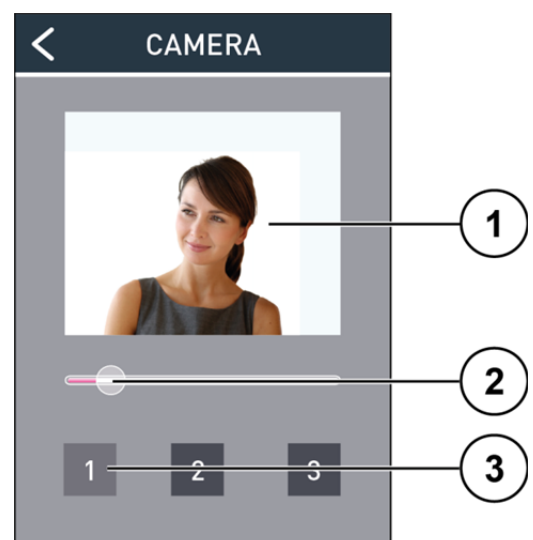

Fig. 14: camera
- In the menu *Camera* the live image (1) of the camera is displayed (Fig. 14).
- ▶ Tap a camera button (3).
- ▶ Slide the zoom controller (2) to the right to zoom into the video image resp. to the left to zoom out of the video image.
- ▶ Tap the camera button (3) until an acknowledgement tone sounds. The coverage is stored.